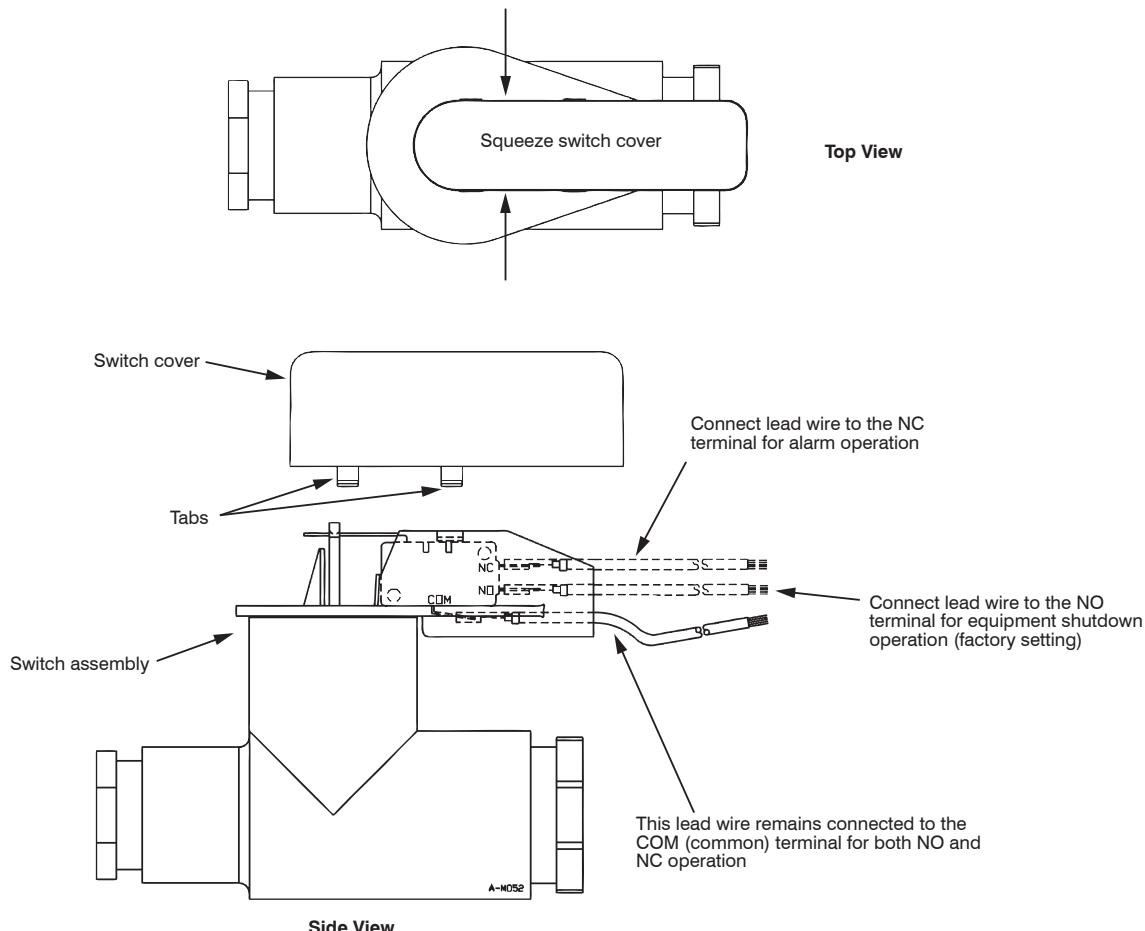

Figure 1
3. If an alarm circuit is required, change the switch lead wire to the configuration shown in Figure 1. To access the switch and lead wires, remove the switch cover by squeezing gently on both sides simultaneously at the tab locations (Figure 1), then lift from the switch assembly. Remove the lead wire from the center terminal and connect it to the upper terminal using needle-nosed pliers. Leave the COM (common) lead attached. This way, the switch is held open by the weight of the float during normal conditions, and when a downstream clog occurs, the float rises and closes the electrical circuit to activate the alarm. There is no need to remove the switch from the switch holder when changing the lead wire positions.
1. Remove the switch cover (Figure 1) to access the lead wires.